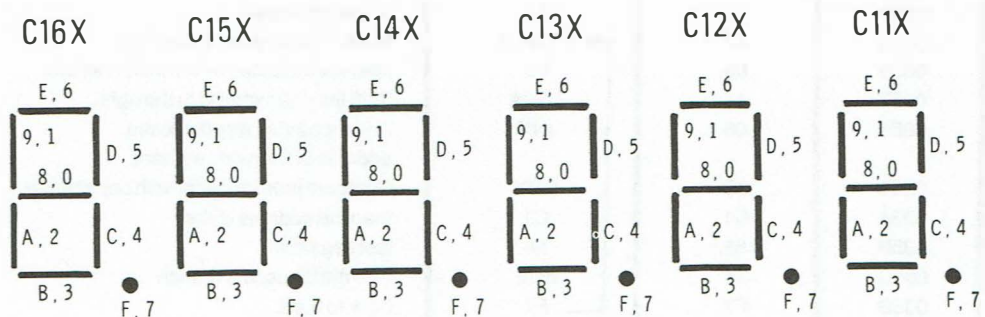

Figure E12-4
12. Refer to Figure E12-4. This figure shows the addresses of the LED's in each of the six displays. You have seen that the left display has an address of  $C16X_{16}$ . The X stands for some number between 0 and F, depending on which segment of that display we wish to use. The next display to the right has an address of  $C15X_{16}$ ; etc. As we mentioned before, bit  $A_3$  is ignored, so  $C16E_{16}$  is the same as  $C166_{16}$ .